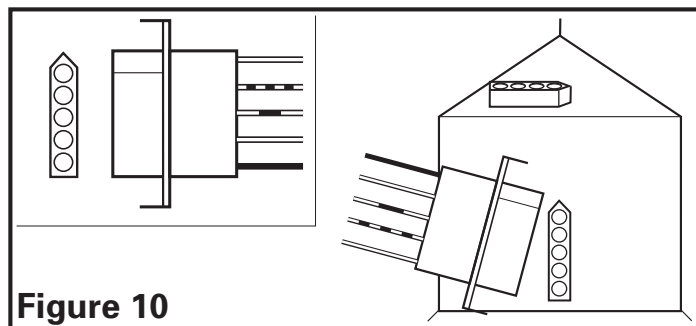

Figure 10
2. Plug the fan's 5 pin quick connect motor cord into the receptacle on the side of the wiring compartment cover and the light's 4 pin quick connect into the receptacle on the top of the wiring compartment cover. These cords will only fit one way into the receptacles (**Figure 10**).